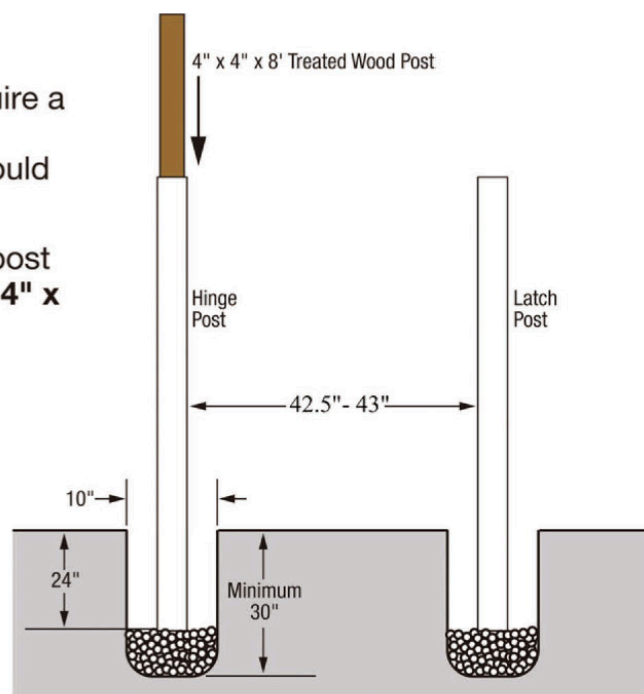

Fig 2. Setting Posts
2. The gate can be set up for Right or Left swing. The post that will be used as your Hinge Side **MUST HAVE A 4" x 4" TREATED WOOD POST INSERT** for greater strength. (See Fig 2.)